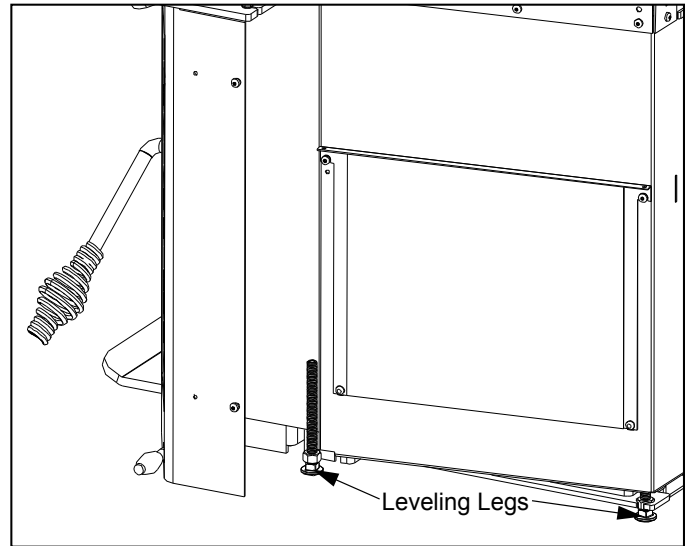

Figure 42: Leveling legs.
3. There are four (4) leveling legs (shown in Figure 42), two (2) on each side, one at the back and one at the front of the unit. Adjust the legs using a $\frac{3}{8}$ " wrench to ensure the unit is stable.